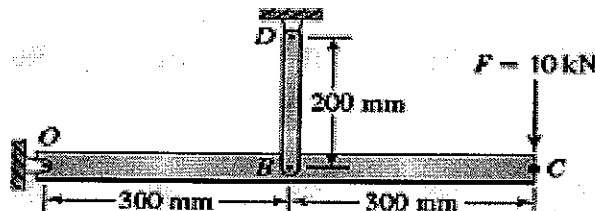

Figure: 2
4. Determine the deflection of point C in Figure 2. The modulus of elasticity of the beam OBC is 207 GPa and the dimensions of the cross section are $40 \text{ mm} \times 40 \text{ mm}$. For the elastic rod BD, the modulus of elasticity is 60 GPa and the cross sectional area is 78.54 mm^2 . Also find the support reaction and stress with the each element.